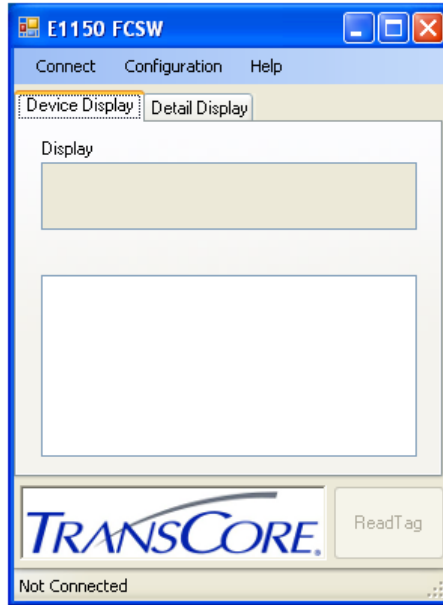

Figure 1 E1150 Field Configuration Software Startup Window
2. The E1150 FCSW startup window will open (Figure 1). Click **Connect**. Click **COM Port**.